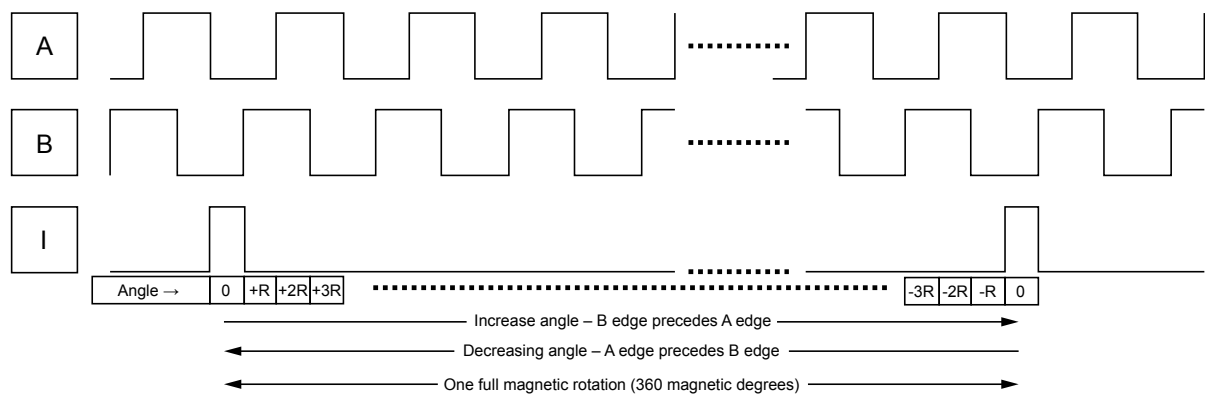

Figure 4: One Full Magnetic Revolution
a frequency of 2^N cycles per magnetic revolution, giving a cycle resolution of $(360/2^N)$ degrees per cycle, where N is set by the resolution_pairs field in EEPROM; see Table 3. The B signal is offset from A by $\frac{1}{4}$ of the cycle period. The I signal is an index pulse that occurs once per revolution to mark the zero (0) angle position. One revolution is shown in Figure 4.